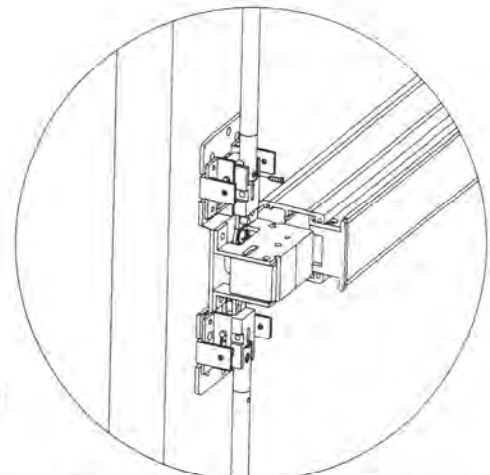

Figure 11
5. Tighten top rod with rod connector onto arrow mark position of chassis assembly. (See Figure 11.)